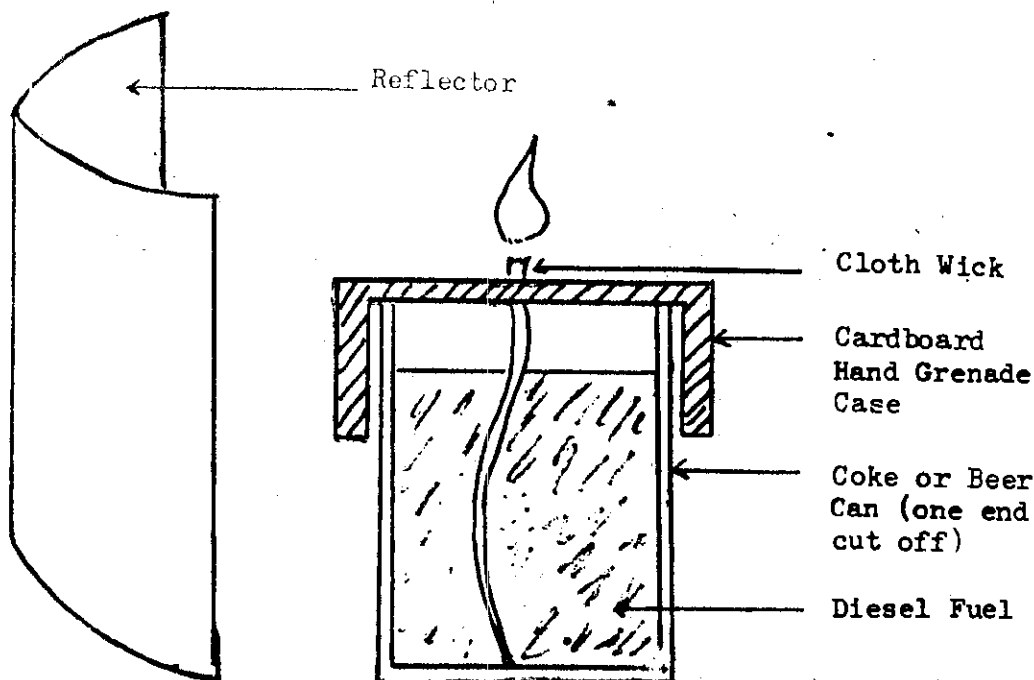

FIGURE 1 (U). Illumination Candle
e. Perimeter Illumination of Outposts. The perimeter of isolated outposts can be illuminated very simply, without electricity. Diesel-fuel candles made from beer cans and cardboard hand grenade cases (see Figure 1) can be placed next to field-expedient reflectors around the perimeter. These candles can be easily and inexpensively constructed using available materials. (Team 96, 40th Group Combat Assistance Team).